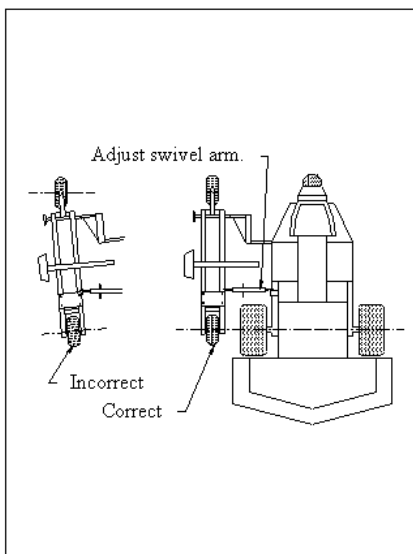

Fig. 6
If necessary, adjust swivel arm (11) until frame parallels tractor. **Fig. 6**